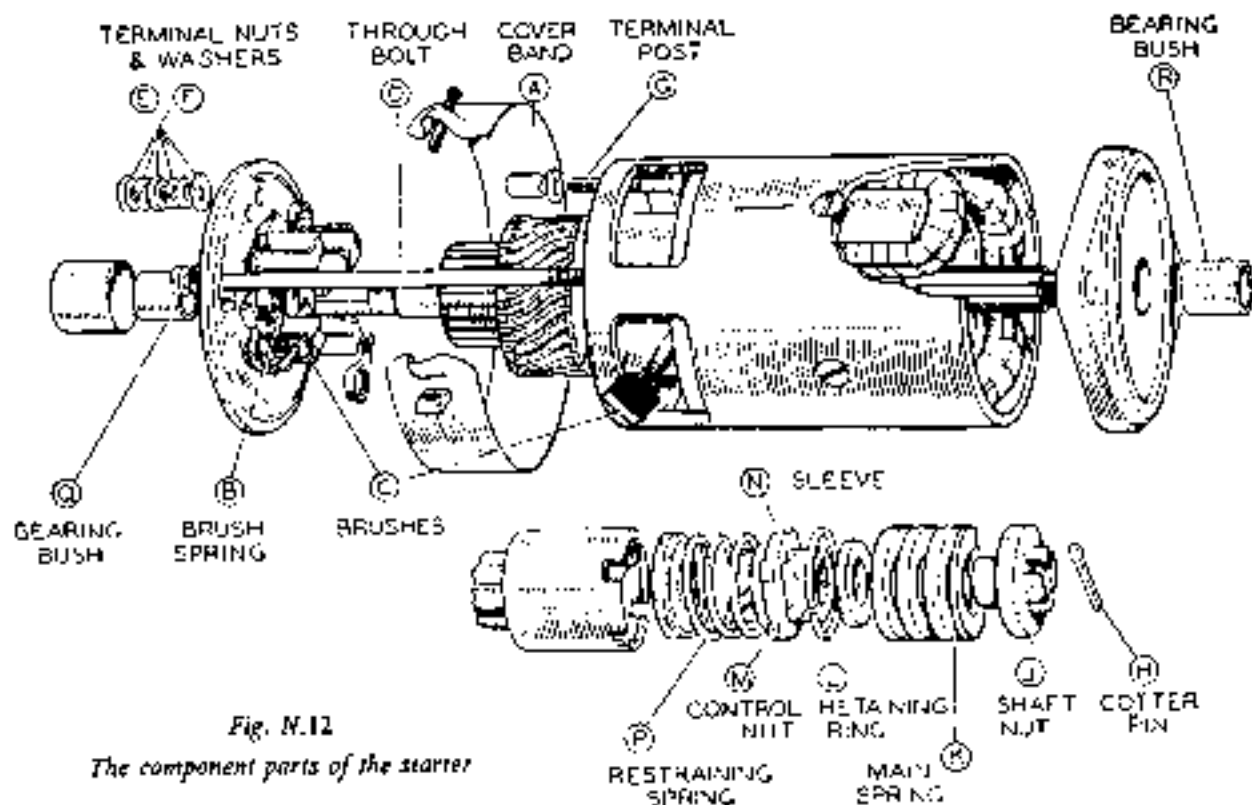

Fig. N.12
- (2) If any parts are worn or damaged they must be renewed.
- (3) Remove the cotter pin (H) (Fig. N.12) from the shaft out at the end of the starter drive. Hold the squared end of the starter shaft at the commutator end by means of a spanner and unscrew the shaft nut (J).
- (4) Lift off the main spring ( $\kappa$ ) (Fig. N.12) and remove the retaining ring (L).
- (5) The control nut ( $\mu$ ), sleeve (N) and restraining spring ( $\rho$ ), will now slide off.
- (6) Withdraw the splined washer from the armature shaft and remove the pinion and barrel assembly.